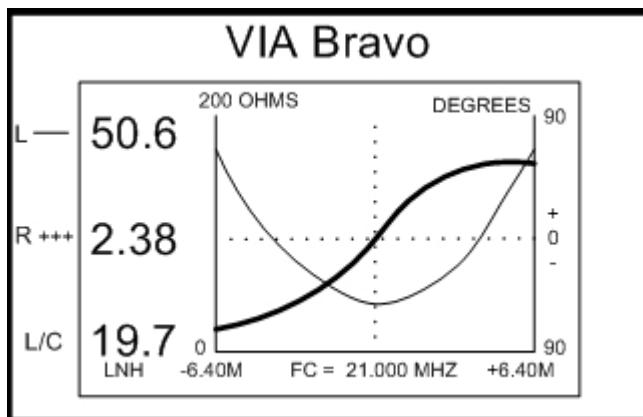
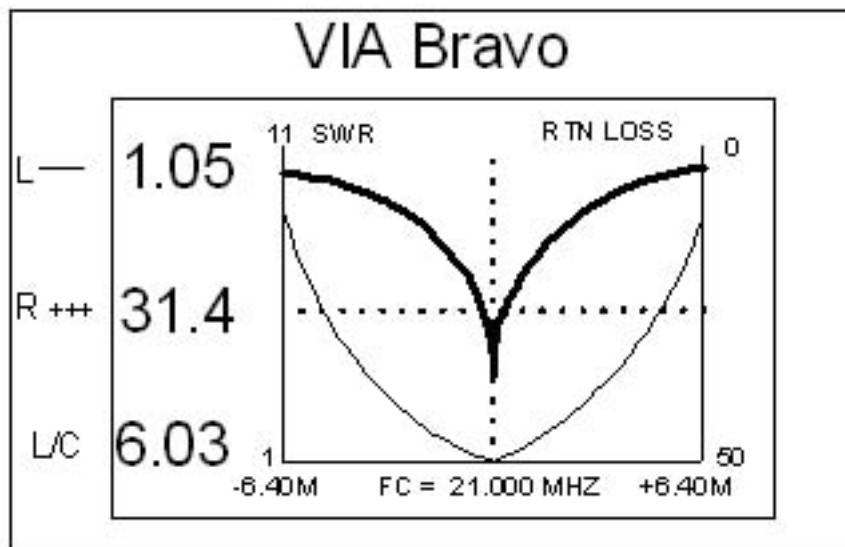

Figure 2
Figure 3
Vector Impedance Measurements Most antenna systems are 50 Ohms. This includes the output impedance of the transceiver, the impedance of the feeder cable, and the impedance of the antenna. An antenna is resonant at the frequency(s) where the Impedance (Phase) Angle is equal to zero (0). Refer to the system or radio specifications for operating requirements. The antenna Impedance should be at or near the manufacturer's specification (usually 50 Ohms) across the frequency band of interest. See Figure 2.
In Figure 2, Impedance is on the Left Plot and Impedance (Phase) Angle is on the Right Plot (thick line). The center is set at the resonant frequency (FC) of the antenna at 21 MHZ, and the Sweep Range is set at 12.80 MHz (6.40 MHz below FC and 6.40 MHz above FC). The Impedance (Z) of the device under test is 50.6 Ohms at the center frequency, and the Impedance (Phase) Angle is 2.38 degrees at the center frequency. This Impedance Angle reading means that the device is inductive rather than capacitive at the center frequency. A negative Impedance Angle reading would identify the device as being capacitive. The L/C reading of 19.7 nH (nano-henry) is the device's inductive measurement at the resonant frequency. Depending on the system specifications, these reading may be perfectly acceptable.
SWR and Return Loss are scalar measurements, that is, they do not have any resonance information. This type of testing is a rough indication of system match. It was a popular way to measure antennas because the SWR meters were so much cheaper than vector (non-scalar) measuring systems. Although SWR measurements are useful in testing antennas, the Vector Impedance readings provide the most information for testing antennas, cables, and electrical devices because SWR and Return Loss do not show where the antenna is resonant. See Figure 3 for an example of the of the SWR plot.
In the Figure 3, the SWR, on the left plot, is 1.05:1. In this example, the minimum SWR occurs at the resonant frequency (same antenna shown in Figure 2), but this will not hold true for most cases. The Return Loss, on the right plot (thick line), is 31.4 db. L/C is the Q measurement, which is 6.03. It should be noted that SWR and Return Loss have a direct relationship. The center frequency and sweep width are the same as in Figure 2. Refer to the manufacturer's specifications for SWR and Return Loss requirements for each antenna.